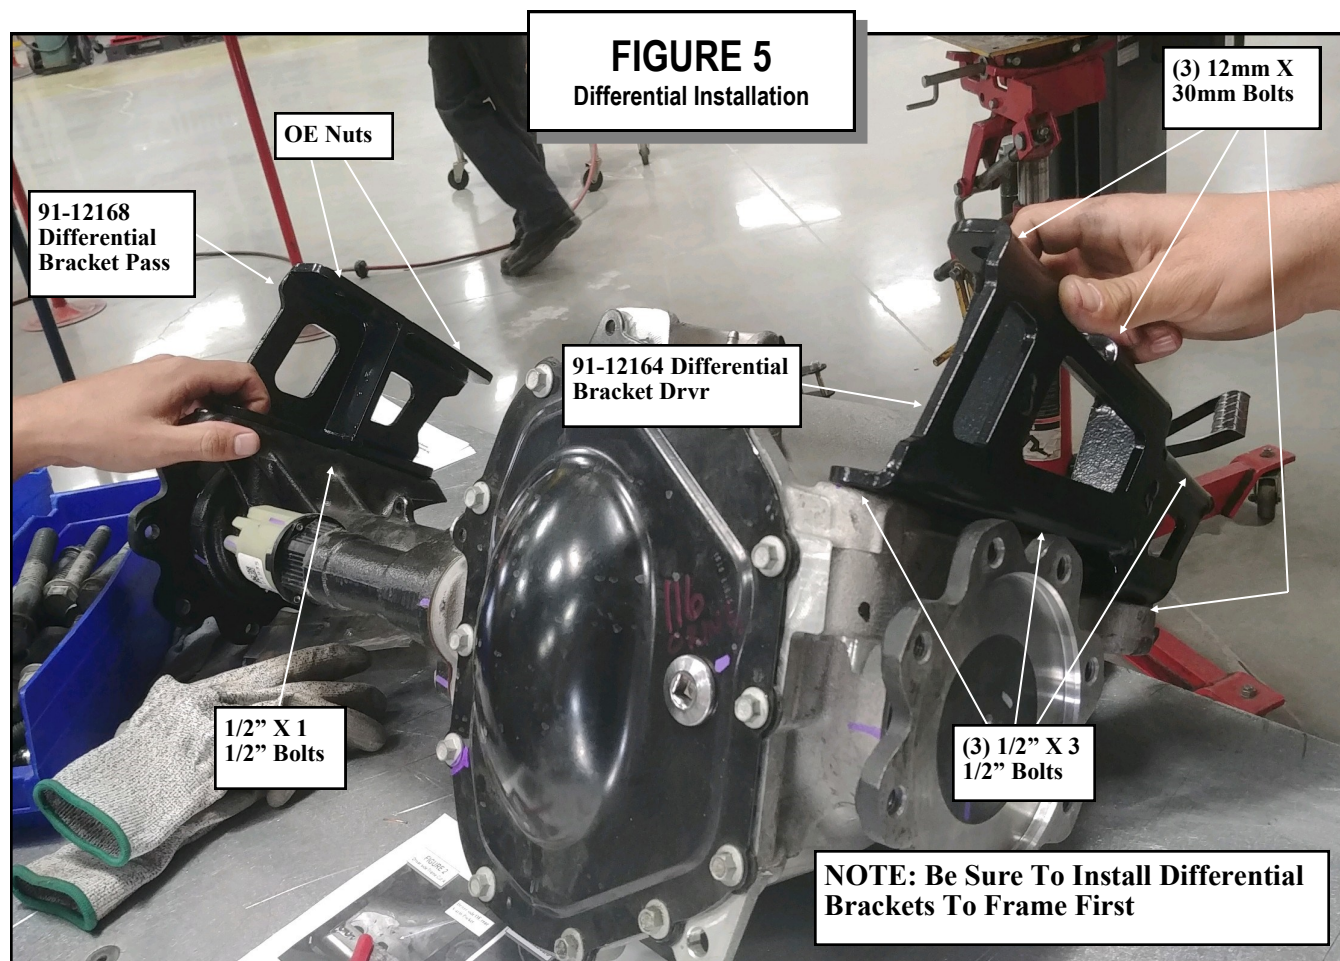

FIGURE 6
39. Install clip on barrel nuts (90-40769) from hardware pack (90-60775) to both sides of the frame. See FIGURE 6.
40. Install the locking tab (90-7113) into the OE bump stop pocket. Secure using a 1/4 turn clockwise. See FIGURE 6 and 10.
41. Install the rear crossmember (91-12179) into the factory lower control arm pockets using the (4) previously removed OE bolts and hardware. Install the bolts with the heads to the rear of the vehicle. Leave loose at this time. See FIGURE 6.
42. Install the (2) 12mm X 35mm bolts from hardware pack (90-6769) into the driver side mounting holes and secure to the previously cut frame mount. See FIGURE 6.
45. Install the lower control arm into the new crossmember mounting pockets. Secure using the 18mm X 120mm (front) and 18mm X 140mm (rear) bolts and 18mm hardware from hardware pack (90-6783). **DO NOT** torque the bolts until the vehicle is on the ground. See FIGURE 6 and 7.
67. Install the previously removed **OE** bump stops into the (4) new bump stop locations. See FIGURE 6 and 10.